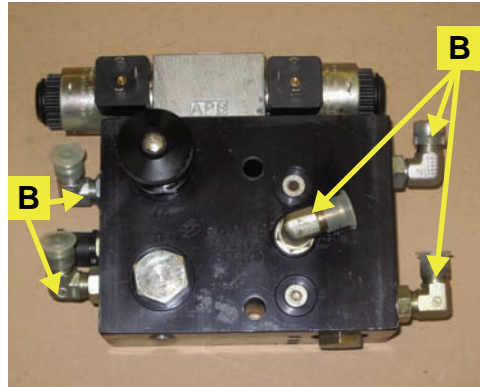

Figure 1a: Prepared automated steering block
- b. Install adapter fitting (B) in the A, B, P, LS and T ports of the Automated Steering Block. (Figure 1a)